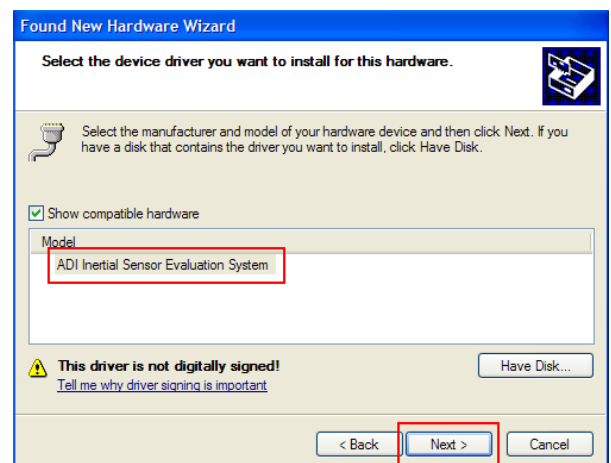

Figure 4. Selection of the ADI Inertial Sensor Evaluation System Drivers
4. Select **ADI Inertial Sensor Evaluation System** from the model list and click **Next>** to complete the process (see Figure 4).